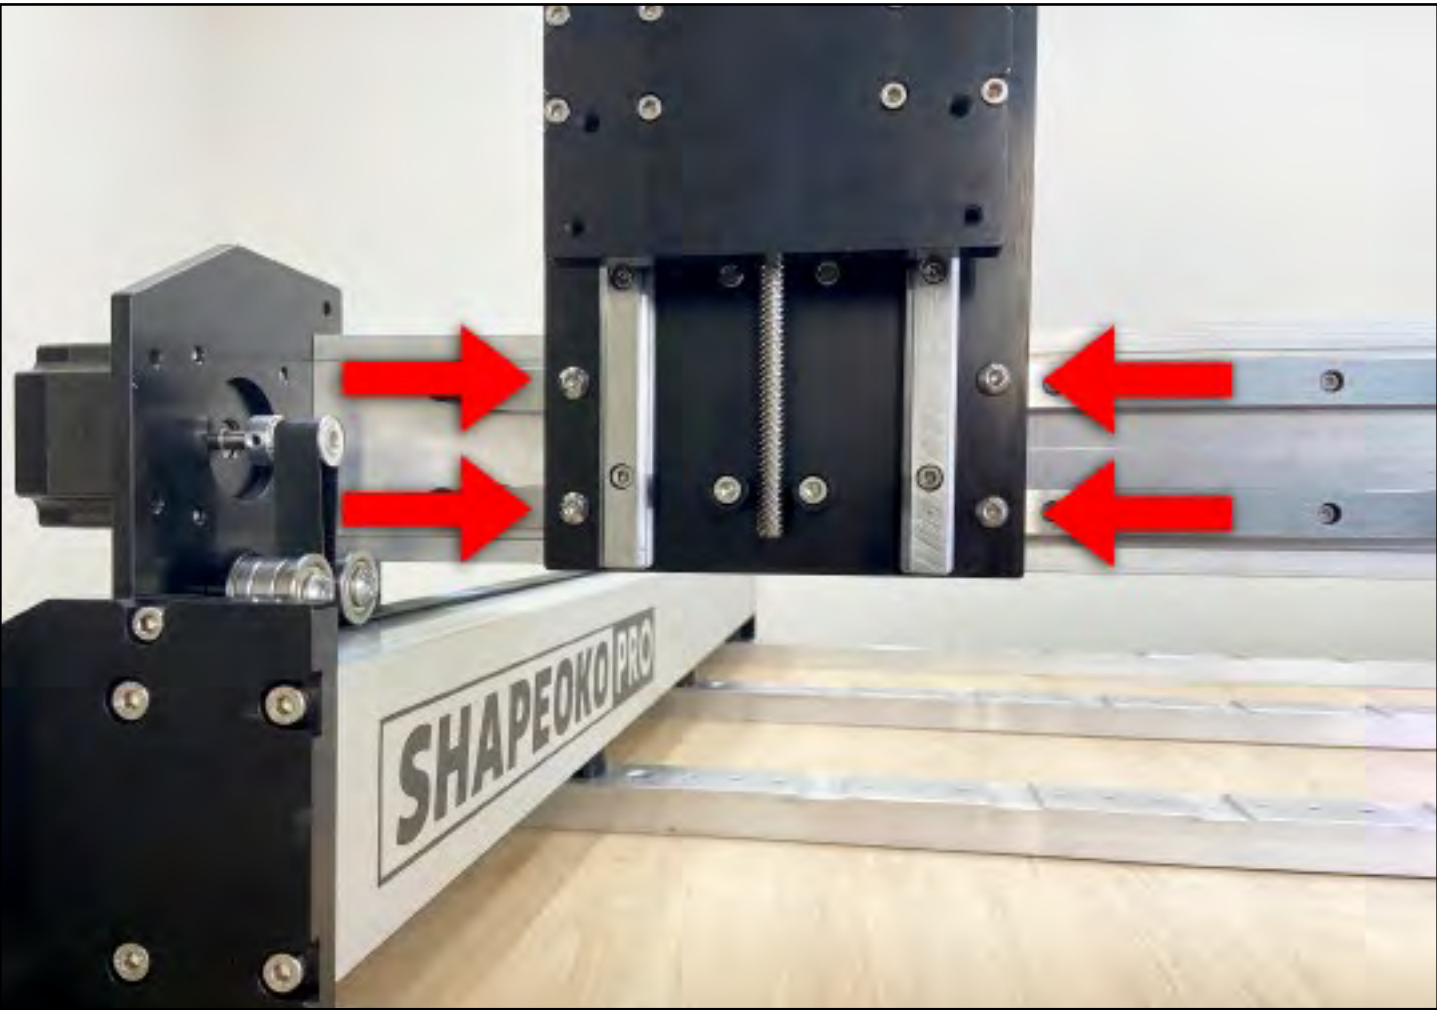

Figure 5-2
- 2. Position the X/Z assembly over the front of the X-Axis carrier plate. **See Fig. 5-2.**
- 3. Use a 4mm hex key and four (4) M6×12mm BHCS to secure the X/Z assembly to the X-Axis carrier plate. Fully tighten.